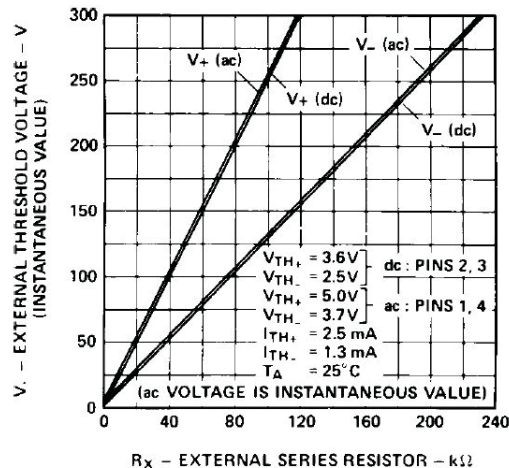
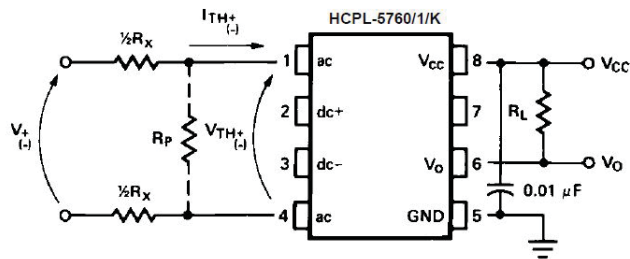

Figure 10. Typical external threshold characteristic,  $V_{\pm}$  vs.  $R_x$ .
Figure 11. External threshold voltage level selection.
The HCPL-5760, HCPL-5761, HCPL-576K or 5962-89477 optocoupler has internal temperature compensated, predictable voltage and current threshold points which allow selection of an external resistor,  $R_x$ , to determine larger external threshold voltage levels. For a desired external threshold voltage,  $V_{\pm}$ , a corresponding typical value of  $R_x$  can be obtained from Figure 10. Specific calculation of  $R_x$  can be obtained from Equation (1) of Figure 11. Specification of both  $V_+$  and  $V_-$  voltage threshold levels simultaneously can be obtained by the use of  $R_x$  and  $R_p$  as shown in Figure 11 and determined by Equations (2) and (3).